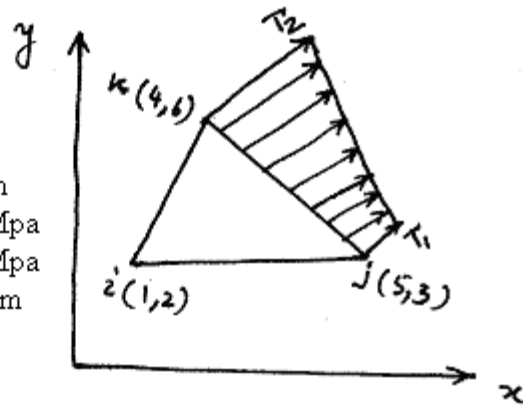

Figure P8.14
14. Solve the plane stress problem in **Figure P8.14**.